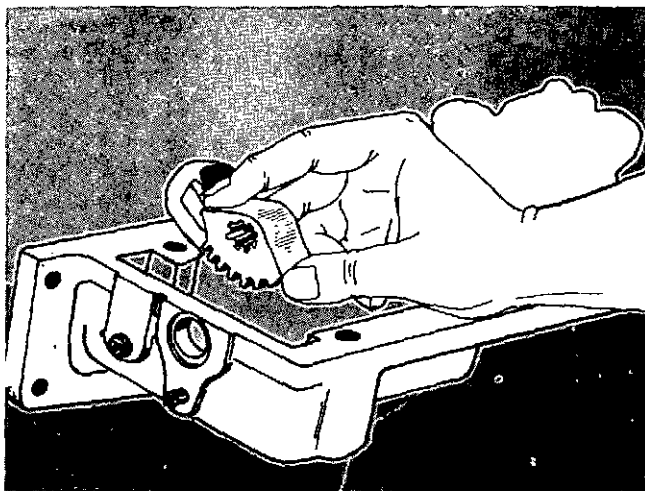

Fig. 4-26. Position The Actuator Gear Into The Housing.
5. Put the actuator gear in the housing, with the teeth of the gear next to the housing. Make sure the part of the gear that has a wide tooth is toward the bottom of the housing, Fig. 4-26.